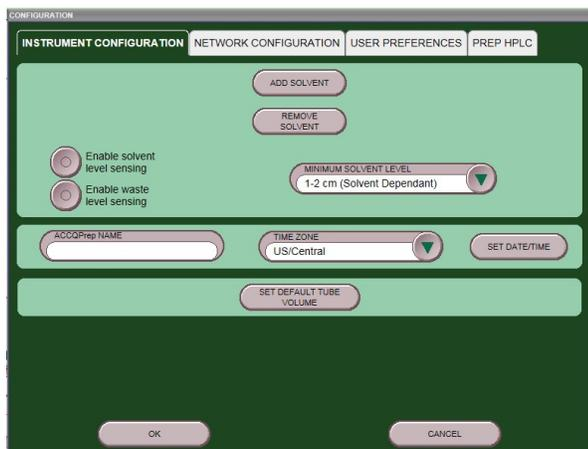

Figure 20: Instrument Configuration tab
6. Select the INSTRUMENT CONFIGURATION tab because the A line is in a narrow graduated cylinder, the solvent level sensing system should be turned OFF (Figure 20).